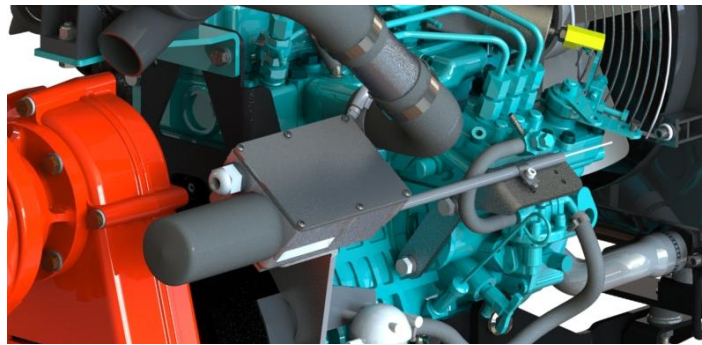

Figure 2
6. When installed, the installation should look like Figure 2.